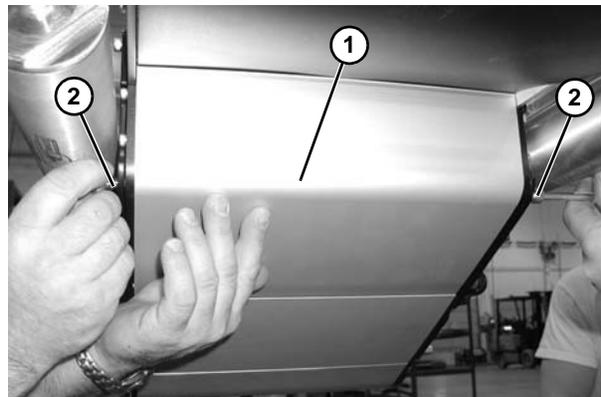

Figure 70
2. Temporarily support idler guard assembly (Figure 70, item 1). Remove screws (Figure 70, item 2).